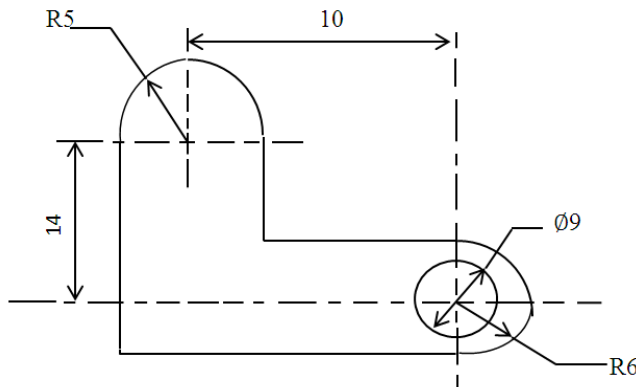

fig.3
- Q.8 a) Design either progressive or compound die to blank the workpiece shown in figure3 Thickness 16 of blank 2.4mm shear strength  $420\text{N/mm}^2$  strip Length 2000mm. Design should include